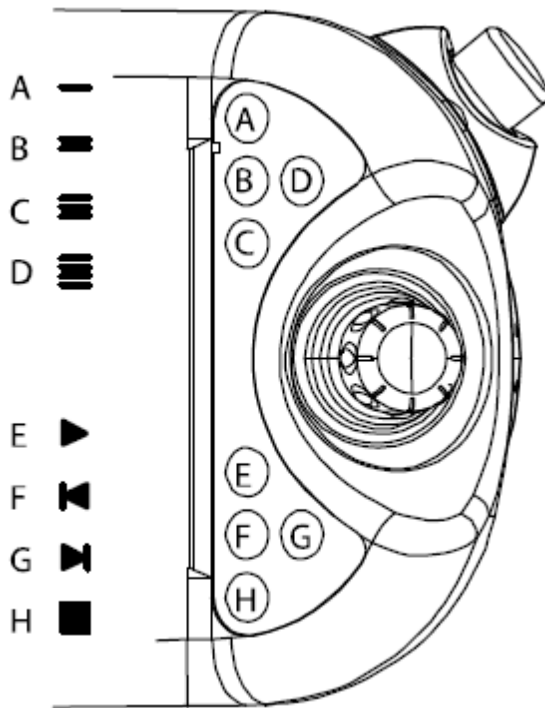

Figure 7: FlexPendant Program Control Buttons
- If you wish for the program to execute, press the **Start** button on the FlexPendant (see E in Figure 7 below)
- The program will begin executing; pressing the **Stop** button (H in Figure 7) will halt program execution.
- Press the **Step Forward** button on the FlexPendant (see E in Figure 7). The controller will execute the next instruction at the program pointer and then stop.
- Note that there is also a **Step Backwards** button (see F in Figure 7).